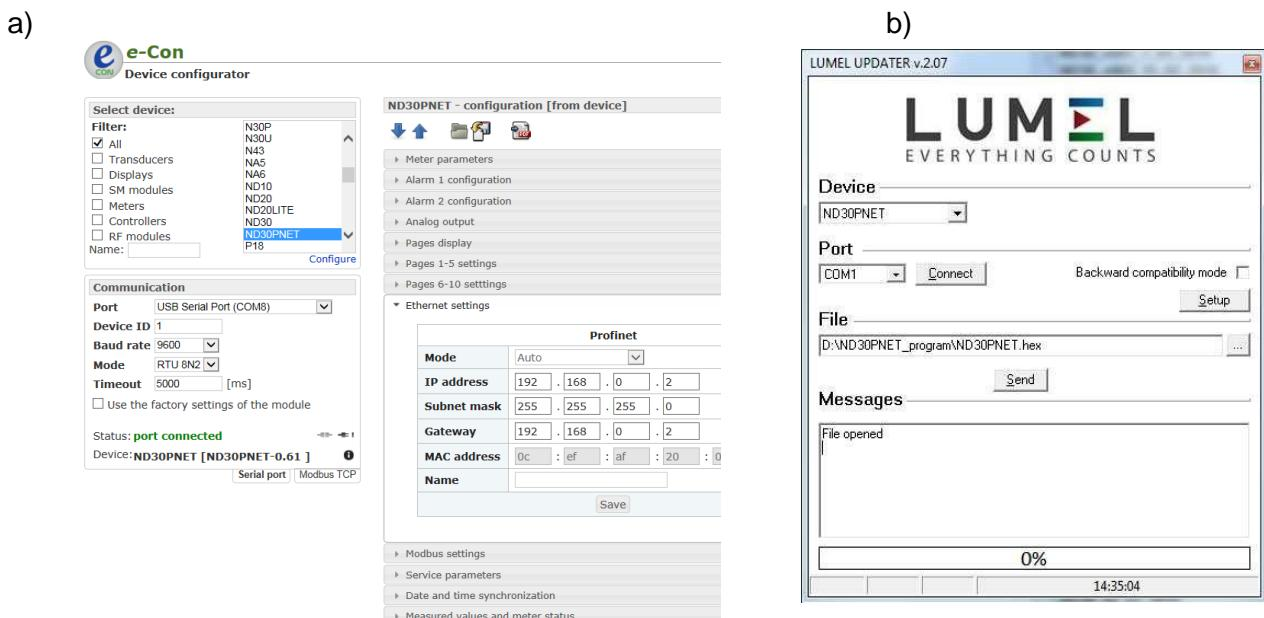

Fig.33. View of program window: a) eCon, b) firmware upgrade
Caution! After upgrading the software, the user should restore the factory settings of the meter, therefore it is recommended to preserve the initial meter parameters before upgrading it using eCon software. After starting eCon the serial port, speed, mode and meter address should be set in the settings. Then select ND30PNET meter and click *Configure*. To read all the settings, click the down arrow icon, then the floppy disk icon to save your settings to a file (you need to restore them later). After selecting *Update firmware* (in the upper right corner of the screen) *Lumel Updater* (LU) window will open - Fig. 33 b. Press *Connect*. *Messages* information window contains info about the progress of the upgrade process. When the port is properly opened the display shows: *Port opened*. Entering in the procedure of updating in the meter is done in two ways: remotely via LU (based on the settings in eCon - address, mode, speed, COM port) and by switching the power meter while pressing the button (while entering bootloader mode by pressing the button, the communication parameters: 9600, RTU8N2, address 1). The display shows *boot* with bootloader version, while LU shows the following message *Device found* and the name and version of the connected device. Press the button “...” and specify the update file of the meter. When the file is properly opened, the following message is displayed *File opened*. Press the button *Send*. After successful upgrade the meter switches to normal operation, and the information window shows *Done* and the upgrade duration. After closing LU window, go to the group of parameters *Service parameters*, select *Set the meter default parameters* and press the *Restore* button. Then press the folder icon to open the previously saved settings file, and press the up arrow icon to save the settings in the meter. The current software version can also be checked by reading the greeting messages of the meter after the power is turned on.